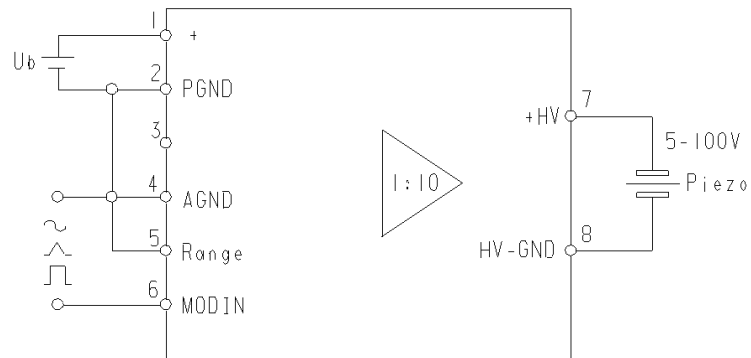

Fig. 3: E-660.OE : Amplifier mode
- 2 Amplifier operation, using external control signal. See Fig. 3.